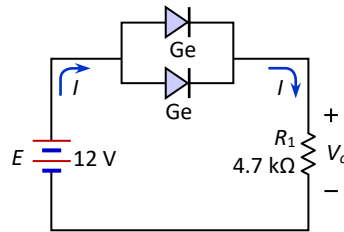

Fig.3-99: Circuit for Exercise 6
6. For the diode circuit of Fig.3-99, calculate the output voltage (V_o) considering the barrier voltages of the diode.